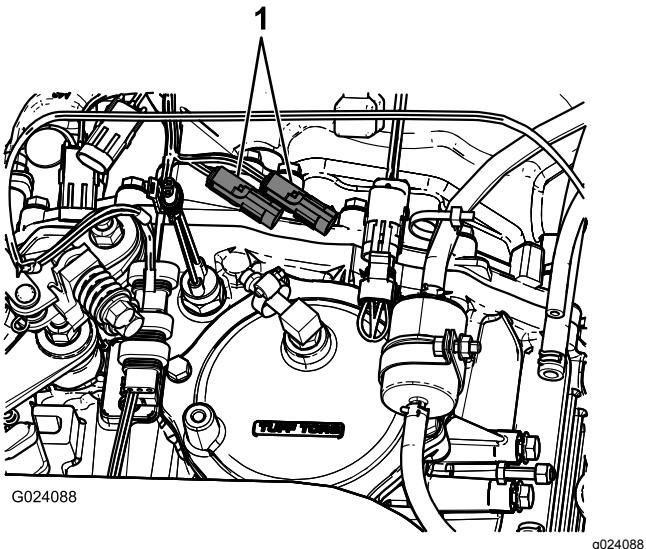

Figure 12
9. Connect the existing speed sensor to the speed-sensor plug and the speed-sensor-output plug on the new wiring harness (Figure 12).